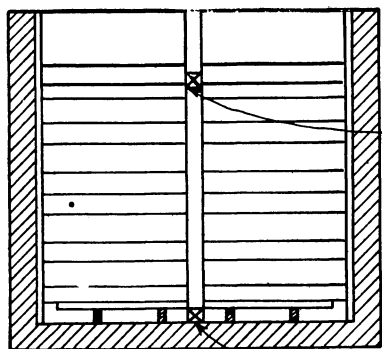
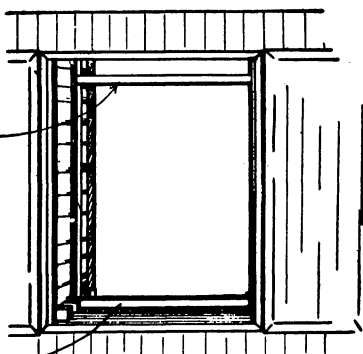

FIG. 13.—Bulkhead across car at doorway to hold bulk potatoes.
FIG. 13a.—Bracing to hold bulkheads in place.
20. In loading bulk potatoes build up the bulkhead at the doorway (Fig. 13) as necessary. The bulkheads should be made of good 1-inch boards, or heavier, so cut that they will fit and may be nailed behind 2 by 4-inch uprights nailed to each false side wall and a 4 by 4-inch upright at the center. The center uprights of the bulkhead should be braced apart with not less than two pieces of 4 by 4-inch driven in place and well nailed (Fig. 13a).
16. In loading bulk potatoes, build up the bulkheads at the doorway (fig. 13), as necessary. The bulkheads should be made of good 1-inch boards, or heavier, so cut that they will fit and may be nailed behind 2 by 4 inch uprights nailed to the doorposts and a 4 by 4 inch upright at the center. The center uprights of the bulkheads should be braced apart with not less than 2 pieces of 4 by 4 inch studding driven in place and well nailed (fig. 13a).
11. Load bulk potatoes, building up the bulkheads at the doorway (fig. 13) as necessary. The bulkheads should be made of good 1-inch boards, or heavier, so cut that they will fit and may be nailed behind 2 by 4 inch uprights nailed to the doorposts and a 4 by 4 inch upright at the center. The center uprights of the bulkheads should be braced apart with not less than two pieces of 4 by 4 inch, driven in place and well nailed. (Fig. 13a.)